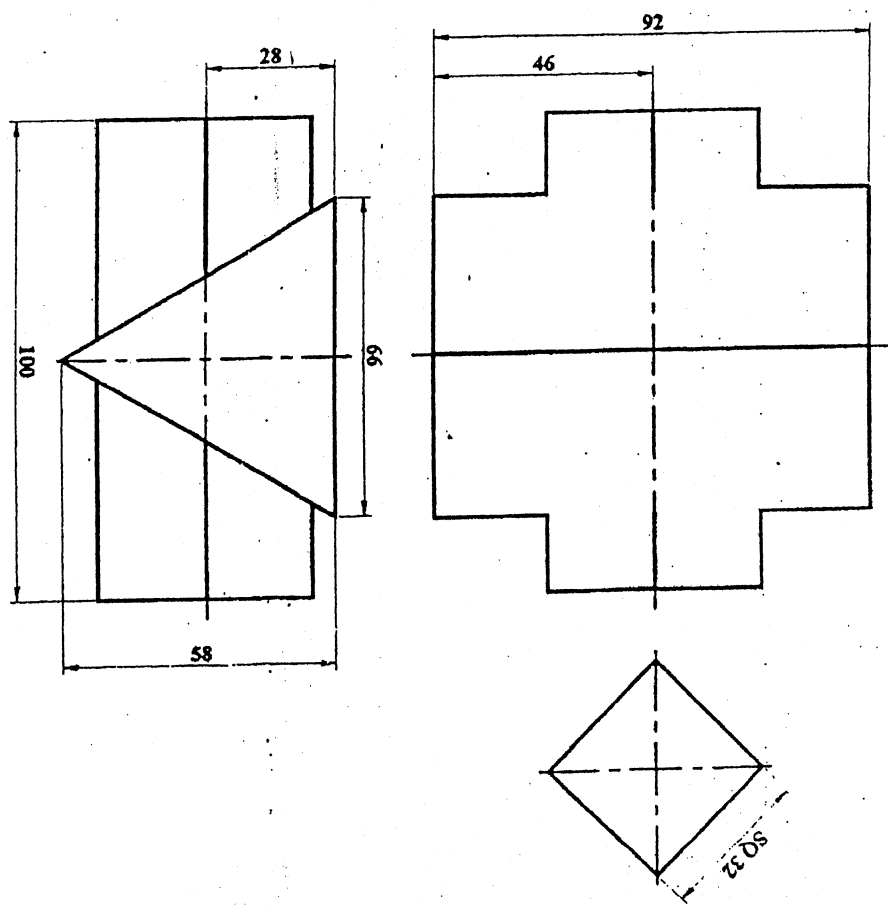

Figure P.5
5. Draw the lines of intersection of the surfaces of geometrical solids shown in Figure P.5. [6]